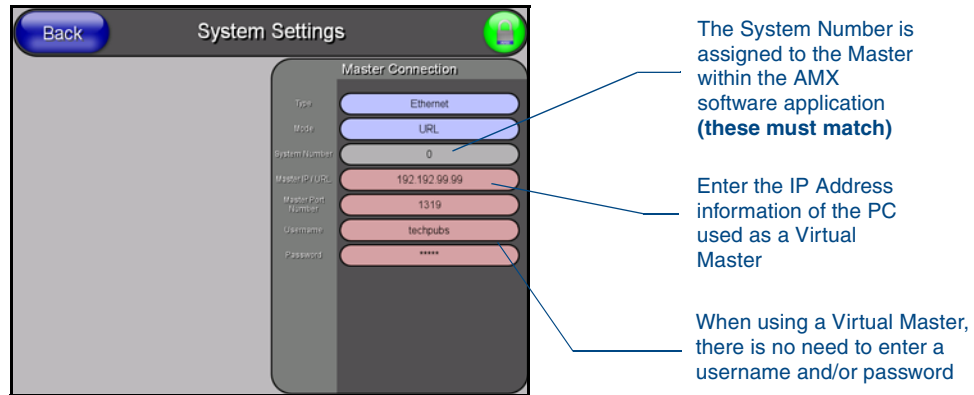

FIG. 50 Sample System Settings page (for Virtual Master communication)
14. Select **Protected Setup > System Settings** (located on the lower-left) to open the System Settings page (FIG. 50).